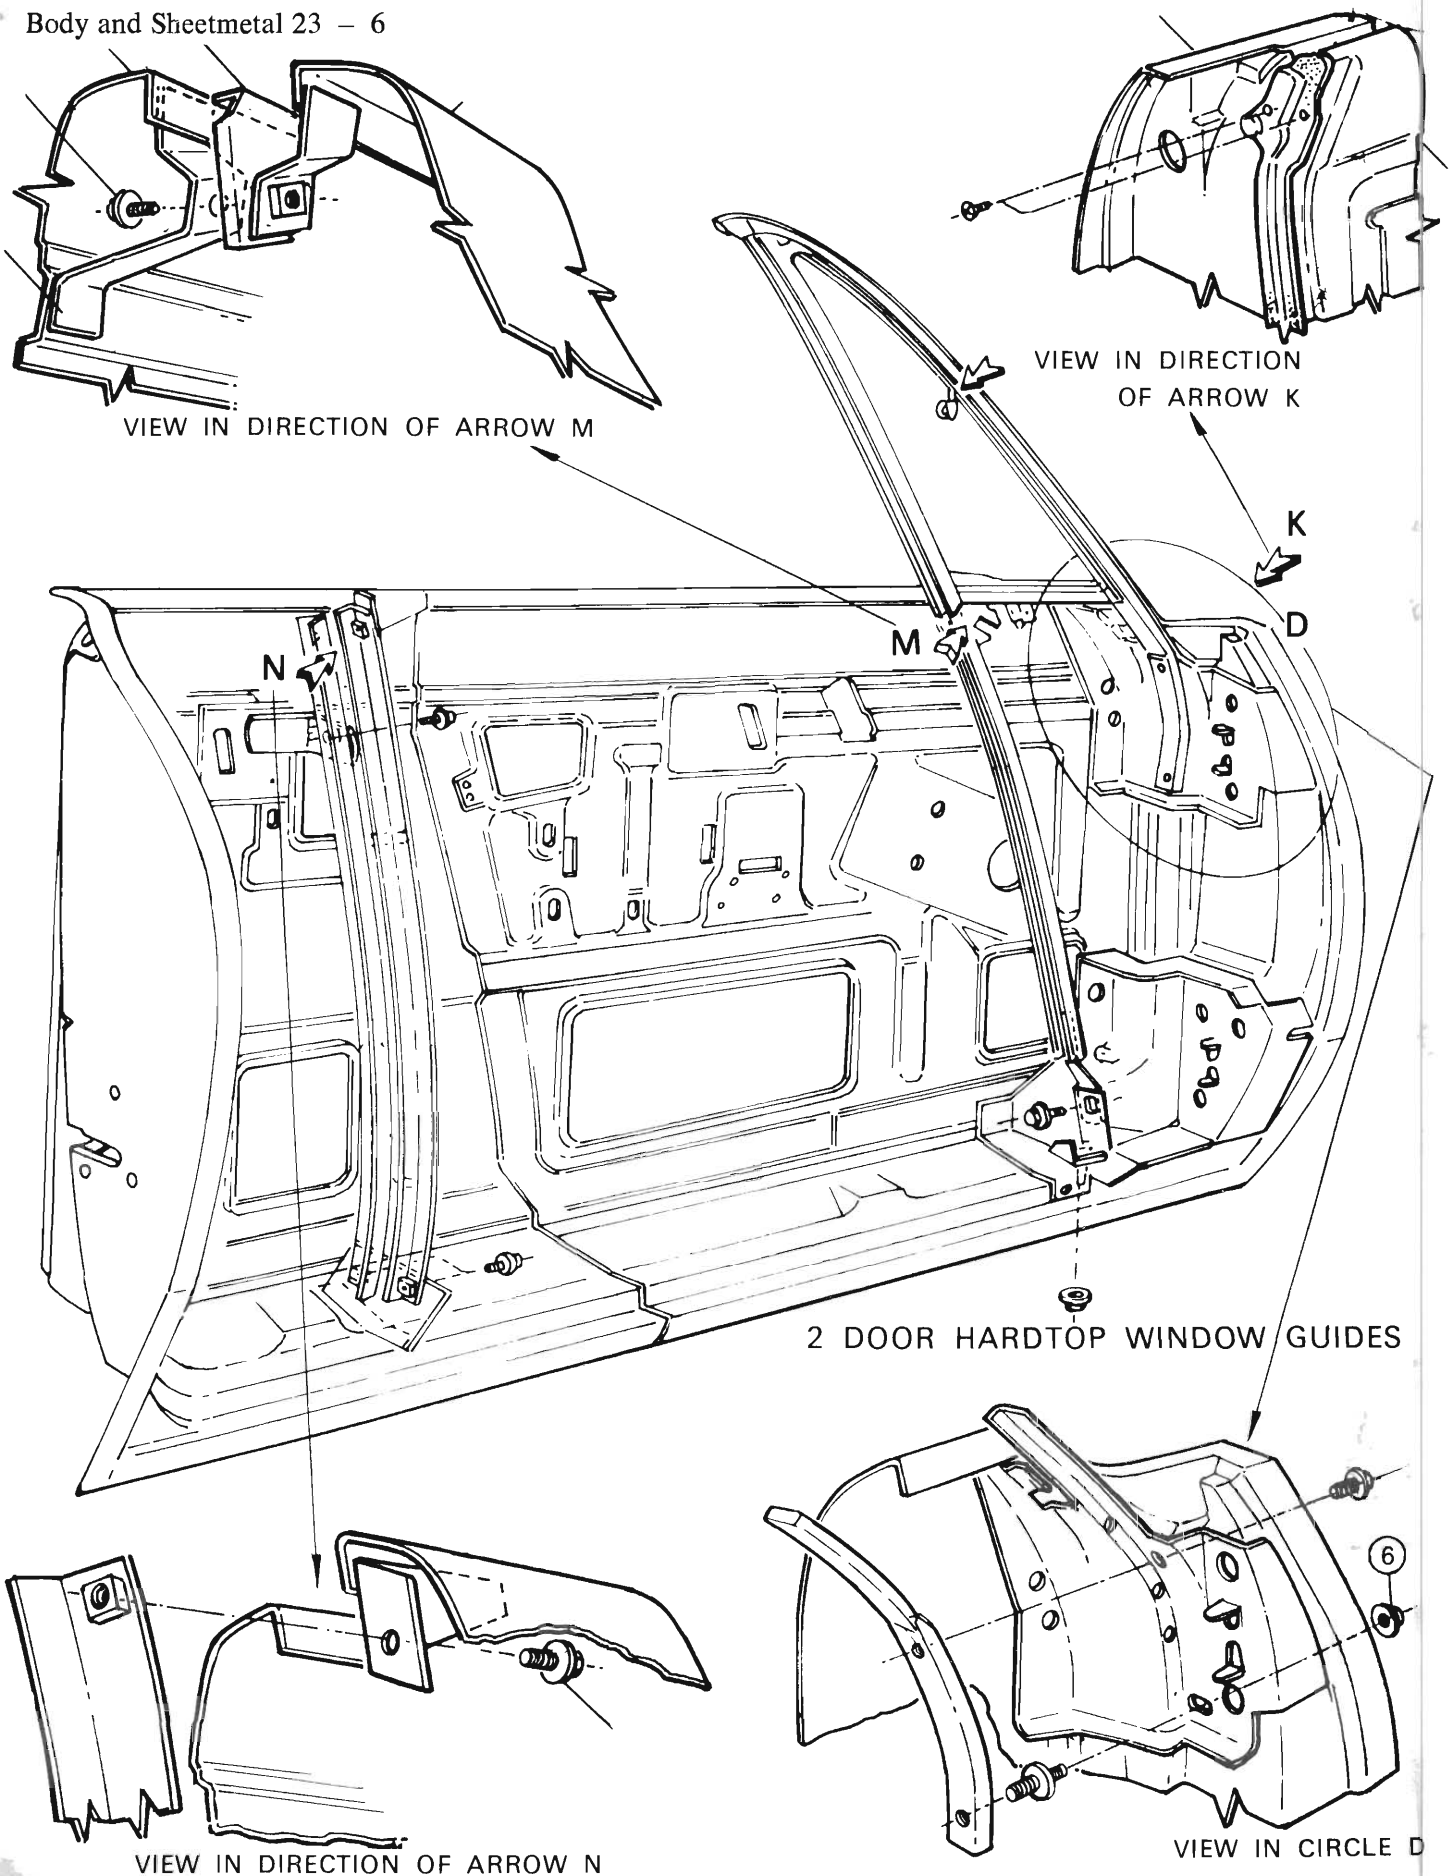

Fig. 6 - Two Door Models Door Glass Adjustment
(Refer Fig. 6)
- (1) Raise door glass two thirds way up. Adjust the upper attachment of rear glass track (view in letter N Fig. 6) to centre glass between inner and outer weatherstrips and tighten screw.
- (2) Raise window, seating the top of the glass and the front of the vent wing fully against and parallel to the roof rail weatherstrip. Tighten the vent wing belt line front screw (view at circle D).
- (3) Adjust the hinge face stud to align the upper edge of the glass to the roof rail weatherstrip and tighten nut (view at circle D Fig. 6).
- (4) Tighten the vent wing belt line rear screw (view in direction of arrow M Fig. 6).
- (5) Position up stop against regulator arm and tighten screw.
- (6) Lower glass half way and tighten rear-track lower screws.
- (7) Tighten vent wing lower division channel adjusting bolt at bracket.
- (8) Lower the glass so stop is even or slightly below belt line outer panel.
- (9) Position lower edge of rear track adjust glass and tighten screws.